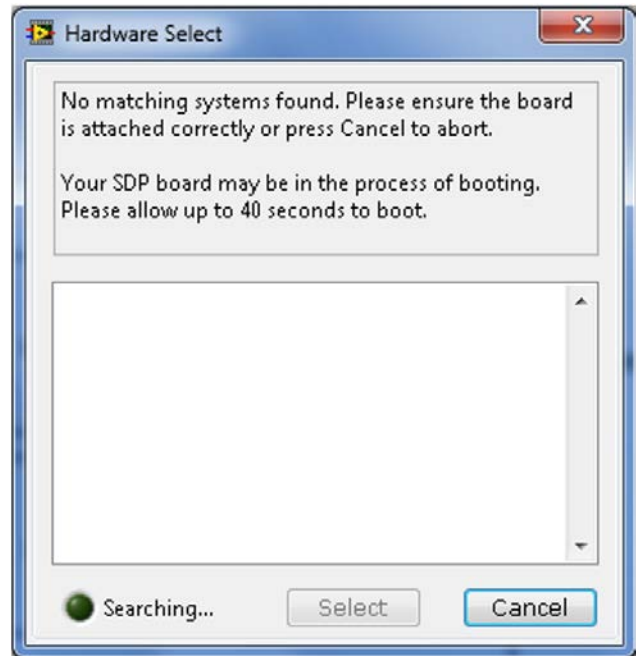

Figure 13. Connectivity Error Alert
2. If the EVAL-AD7405FMCZ is not connected to the USB port via the EVAL-SDP-CH1Z when the software is launched, a connectivity error displays (see Figure 13). Connect the evaluation board to the USB port of the PC, wait a few seconds, click **Rescan**, and follow the instructions.